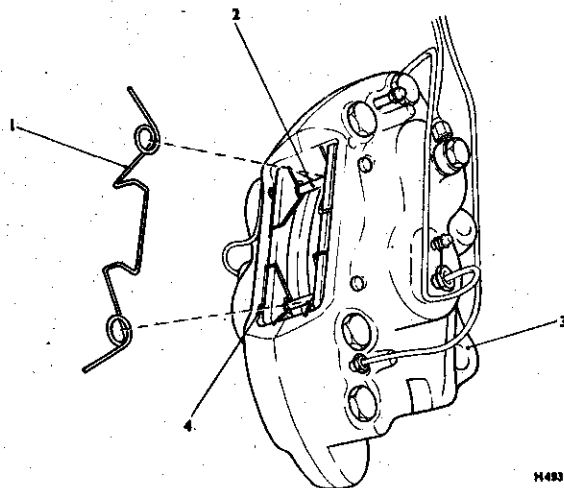

Fig.1 Brake pad anti-rattle springs in position
3. Position one anti-rattle spring as shown in Figure 1 and enter the two pad locating pins into the spring coils (i.e. one pin into each coil).
4. Push the pins inward and through the coils of the second anti-rattle spring positioned by the opposite brake pad as shown in Figure 1.
Note It is most important that the springs are fitted only in the positions indicated in Figure 1 and not the reverse way round.